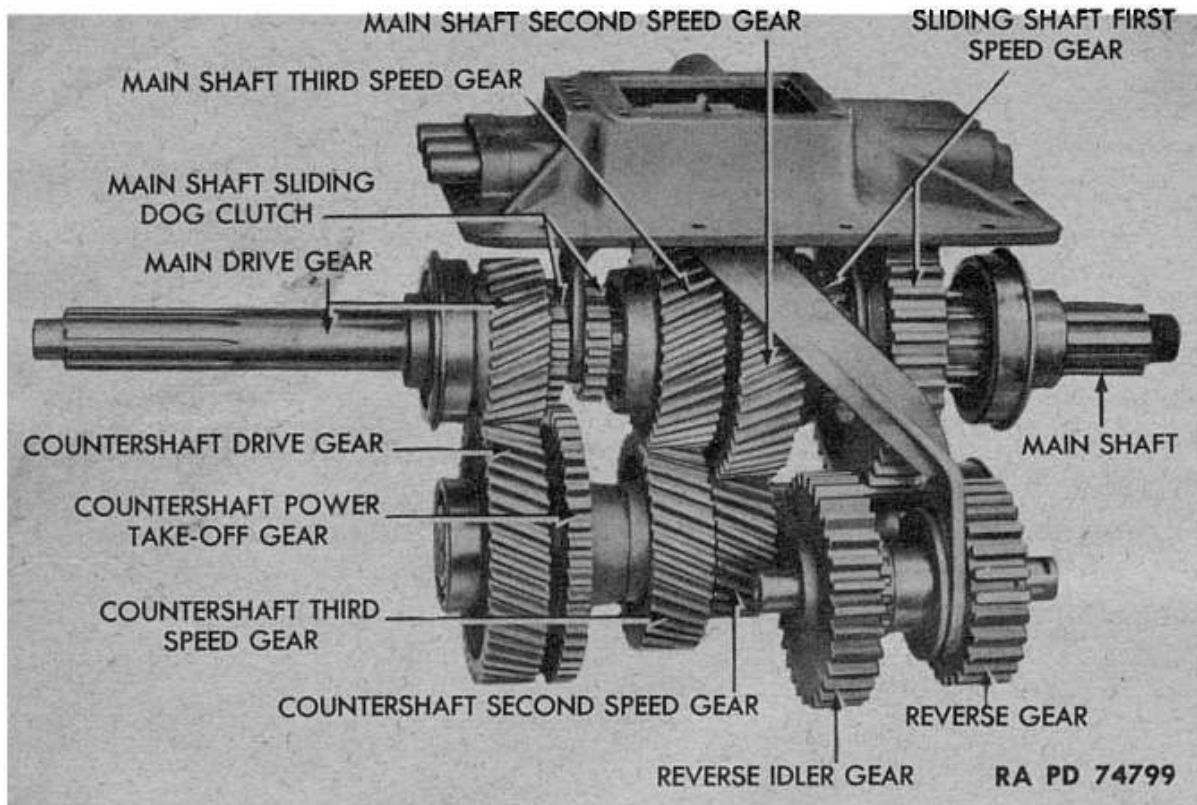

Figure 2 — Position of Transmission Gears — Neutral
3. DESCRIPTION AND OPERATION (figs. 2 and 3).